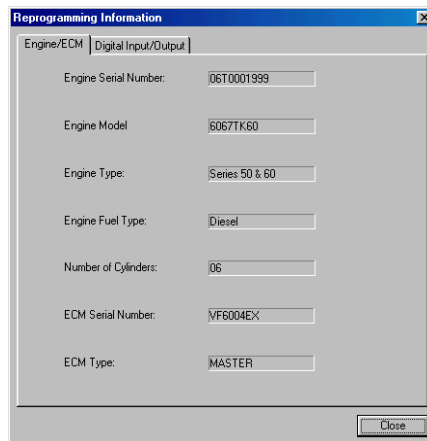

Figure 9
6. When the programming is complete, a "Reprogramming Information" window will display. This will mark the end of the programming process. Click the "Close" button on this screen after reviewing and verifying that the information on this screen is correct. (Figure 9).